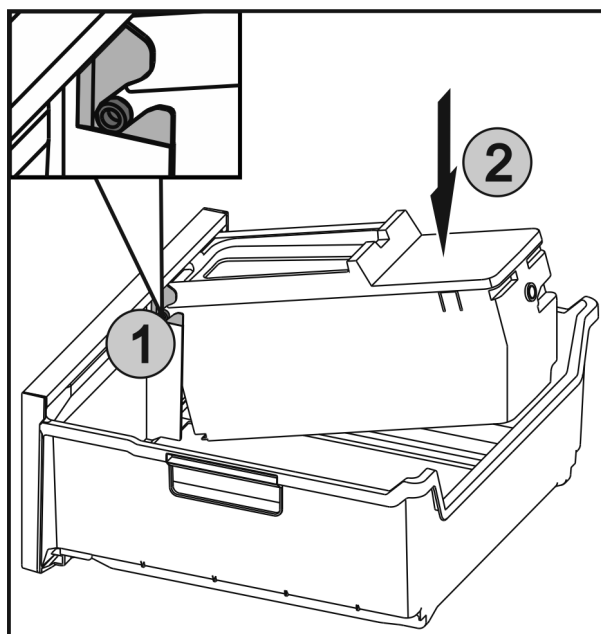

Fig. 43
- Push the axles Fig. 43 (1) on the EasyTwist-Ice into the guides and push the rear side Fig. 43 (2) until the lugs engage.